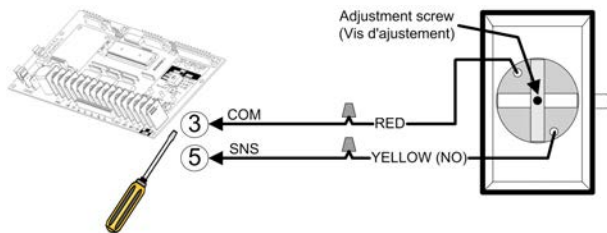
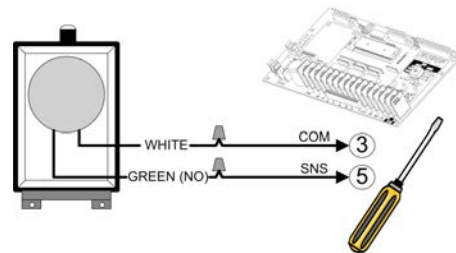

Figure 23 - AIRSWITCH 001 / 007
Figure 24 - AIRSWITCH 009 / 018
3. Use a coil cord or take-up reel to connect the air switch to the operator terminals. Install electric wires according to Figure 23 or Figure 24.